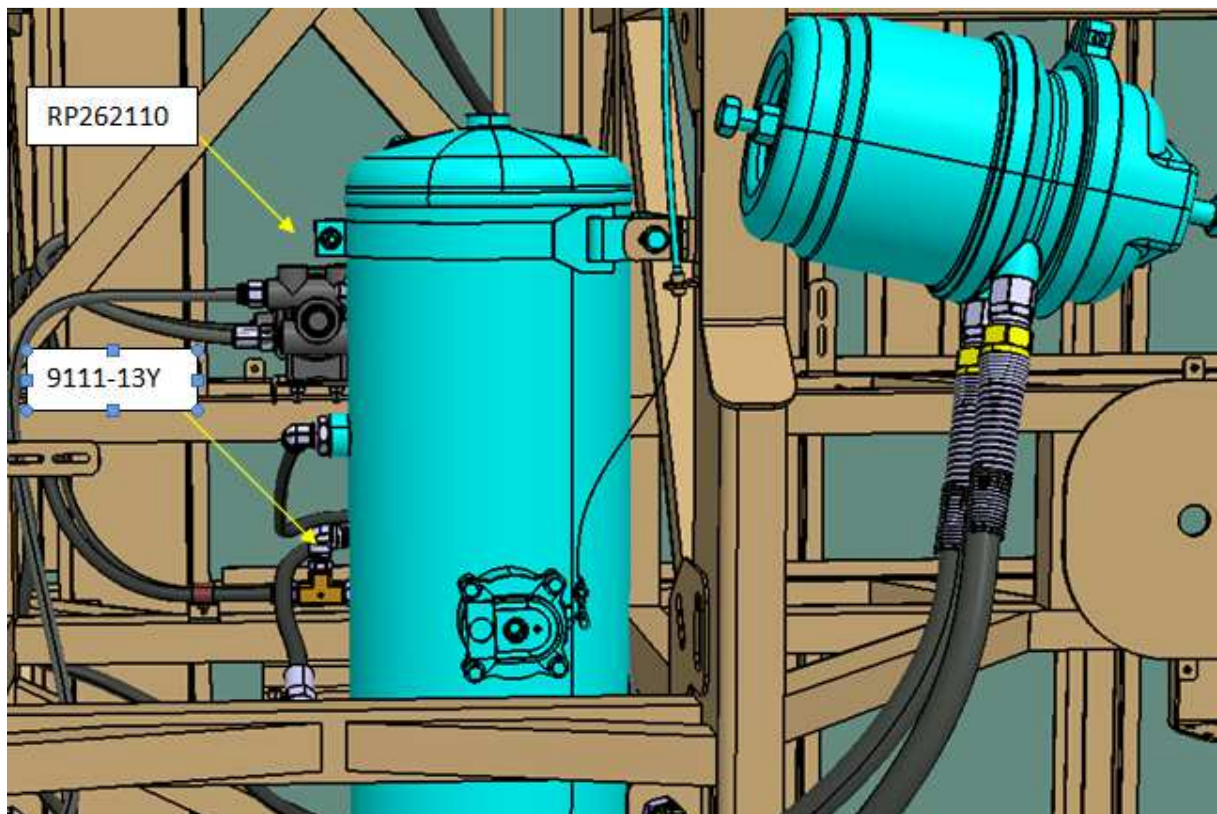

Figure-1B
*Remove the old relay valve with part number RP262110 shown in Figure-1B
*Remove the tee connector with part number 9111-13Y shown in Figure-1B
(The hoses that are previously disconnected by removing tee fitting as described in Page-5/Figure-1B)